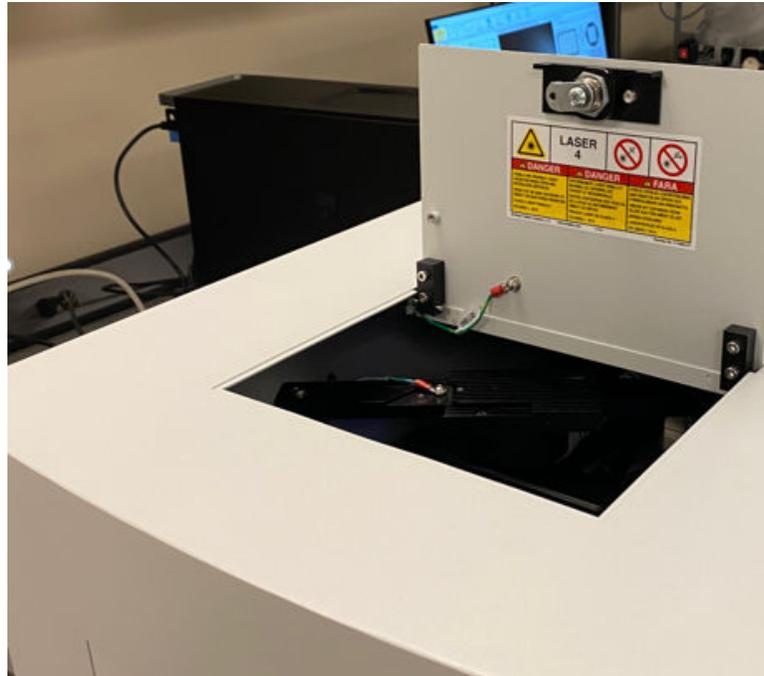

Figure 9 CellInsight™ CX7 Pro HCS Reader service door
1. Open the service door as shown in Figure 9.